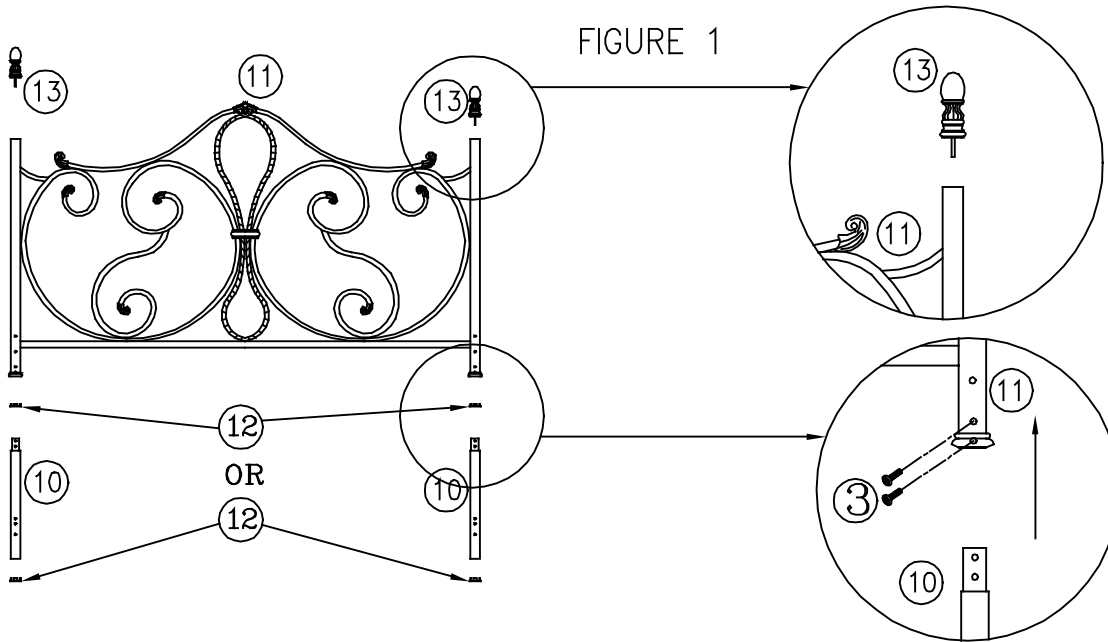
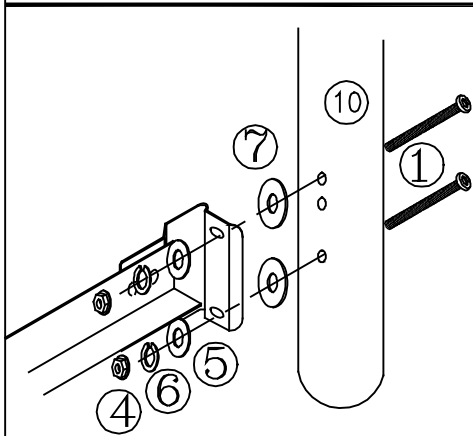
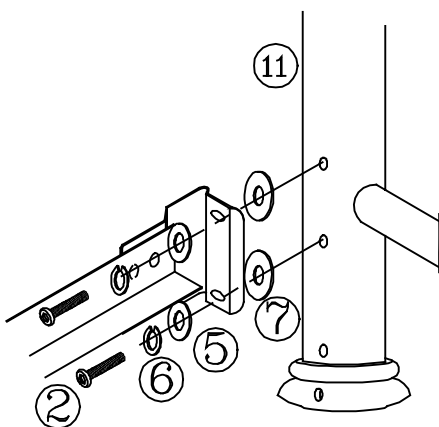

FIGURE 1
FIGURE 2
FIGURE 3
NOTE: This product can be used as Headboard only or as Headboard/Footboard bed. Insert plastic glide (12) into leg extension (10) for headboard assembly. For footboard assembly insert plastic glide (12) into bottom of panel (11) posts. See Figure 1
- Align top reduction of extension leg (10) with bottom of panel post. (See Figure 1) Make sure the 3 holes on extension legs are perpendicular to panel panel.
- Now carefully insert extension leg (10) into bottom of panel (11) posts.
- Secure left extension leg (10) with screws (3) to post.
- Screw in finials (13) into panel posts.
- Place 2 screws (1) through holes located in leg (10). (See Figure 2) Slide rubber washers (7) over screws (1).
- Place a flat washer (5) first, washer (6) and then a nut (4) on each screw. Hand-tighten, DO NOT TIGHTEN screws all the way.
- Tighten all screws securely using the Allen wrench (8) and open wrench (9).
- Discard Leg extension (10) for footboard attachment to frame.
- Position panel (11) and align holes in the post with holes in the frame bracket. (See Figure 3)
- Place washer (6) and flat washer (5) on each screw (2). Insert through bracket, rubber washer (7) and into post. Hand-tighten, DO NOT TIGHTEN screws all the way.